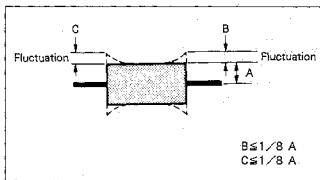

Fig. 7-82.
- 4) Confirm that the fluctuation amount of both RF waveform entrance and exit sides is as shown in Fig. 7-82.